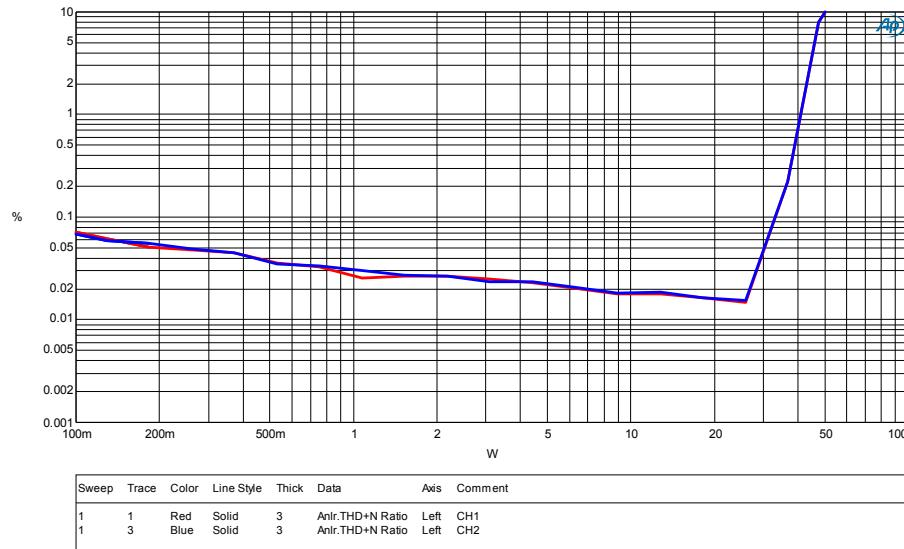
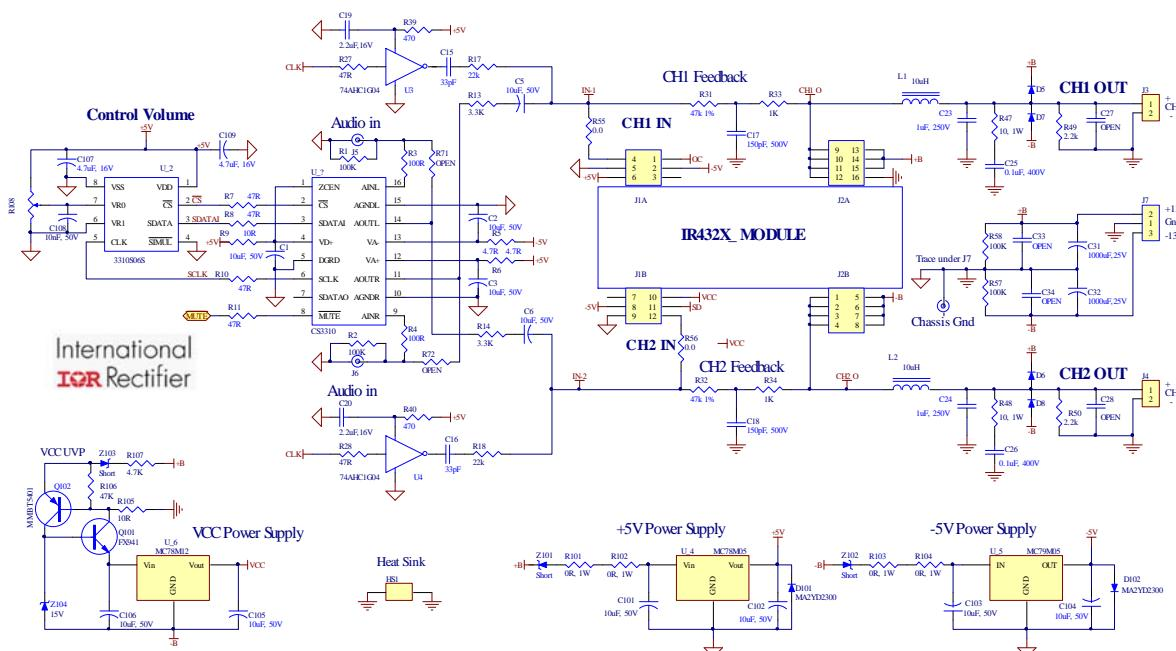

Figure 3
Figure12
15. For all subsequent tests as shown on the Audio Precision graphs below (Figure 3- Figure12), the measurements are taken across J3 and J4 with an AES-17 Filter. Observe that a $1 V_{RMS}$ input generates an output around THD+N=1% power level.